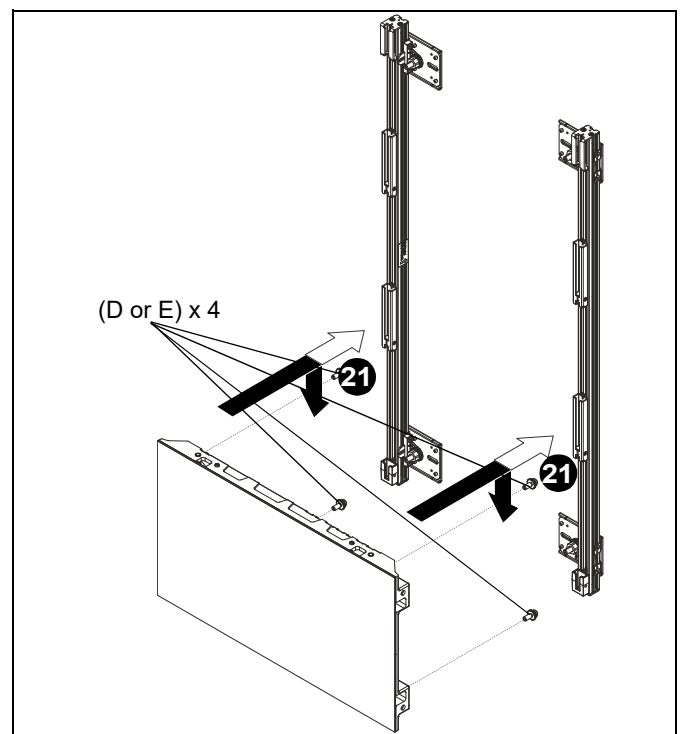

Figure 9
21. (Optional) Install four mounting buttons (D or E) onto back of a display (if available) and install onto H-blocks to ensure the uprights are properly distanced. (See Figure 9) and (See Figure 11)
27. Install mounting buttons (D or E) into one display to be installed. (See Figure 9)